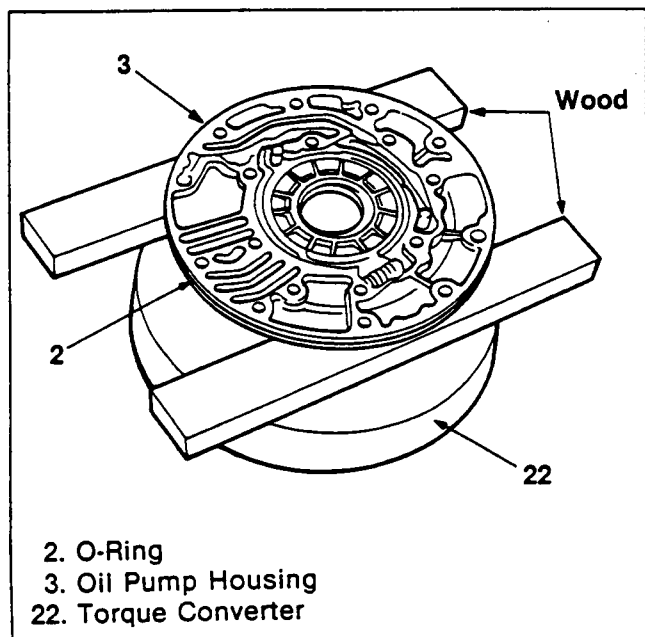

Figure 74. Oil Pump Cover Installation (1)
Oil Pump Cover (Figures 74, 75, 76 and 77)
1. Place the oil pump housing on the wooden pieces inserted over the torque converter whose drive sleeve is inserted to the oil pump rotor. Apply automatic transmission fluid to around the oil pump housing then install the new O-ring (figure 74).